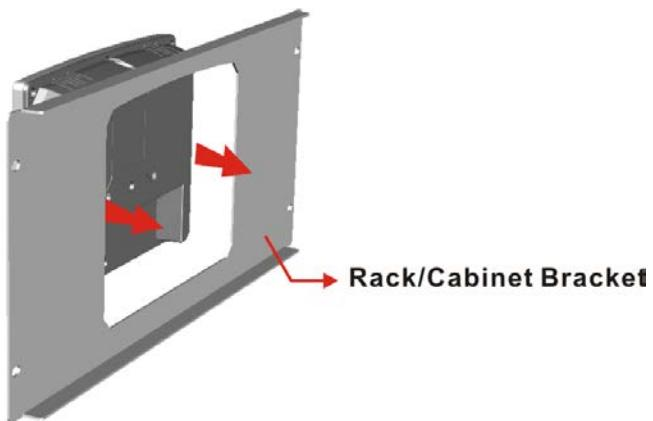

Figure 3-15: Rack/Cabinet Bracket Installation
Step 1: Slide the rear chassis of the AFL3-W07A-BT flat bezel panel PC through the rack/cabinet bracket until the frame is flush against the front of the bracket (**Figure 3-15**).